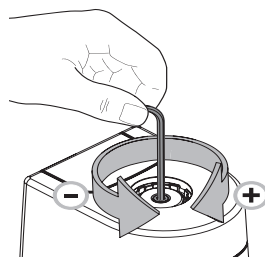

Fig. 7.2
- / **Pressure increase:** turn clockwise in the direction of the arrow (fig. 7.2) = increase pressure (+) with constant visual control of the manometer
- / **Pressure minimisation:** turn counterclockwise in the direction of the arrow (Fig. 7.2) = minimise pressure (-)